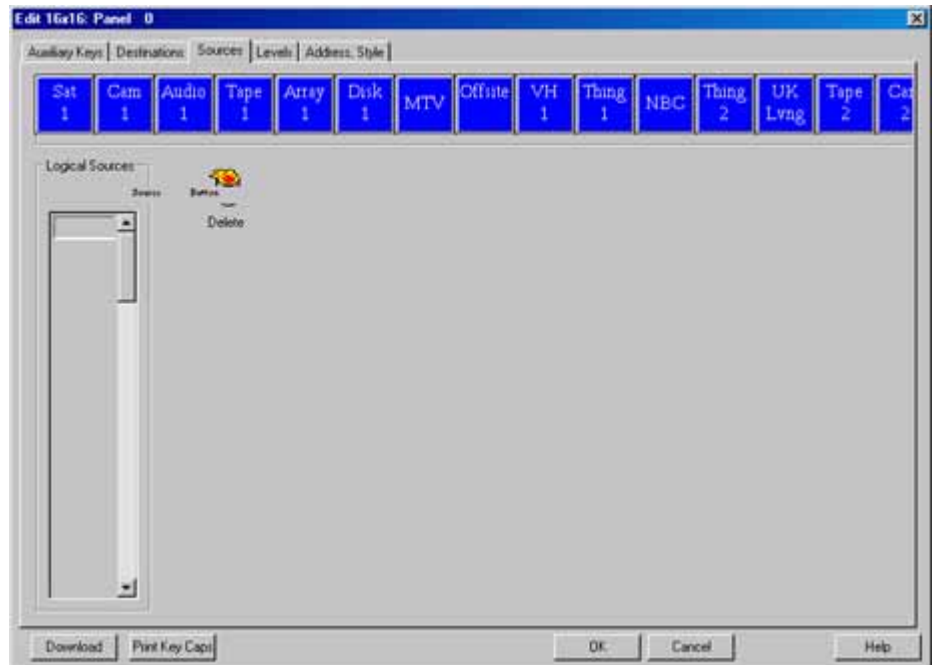

Figure 1-5 Sources Tab
- 2 Select the Sources tab (see Figure 1-5). The Source tab push button key functions match the information set up for the router via the Logical Sources tab. If you want to change these functions: